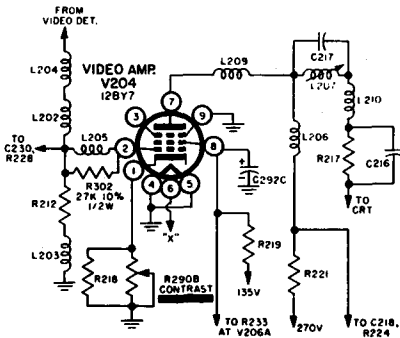

Fig. 52 — Dumont
**Improving picture quality and definition (see Fig. 52).**